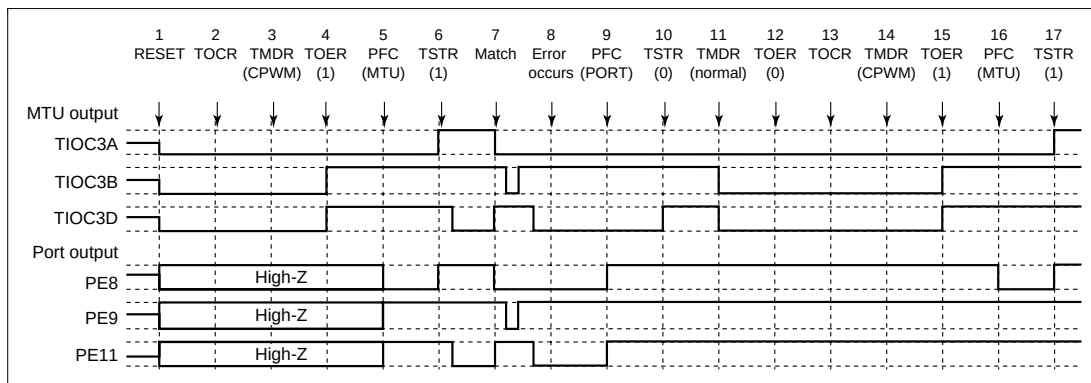

**Figure 12.119 Error Occurrence in Complementary PWM Mode, Recovery in Complementary PWM Mode**
**(23b) Operation when Error Occurs during Complementary PWM Mode Operation, and Operation is Restarted in Complementary PWM Mode:** Figure 12.119 shows an explanatory diagram of the case where an error occurs in complementary PWM mode and operation is restarted in complementary PWM mode after re-setting (when operation is restarted using completely new cycle and duty settings).